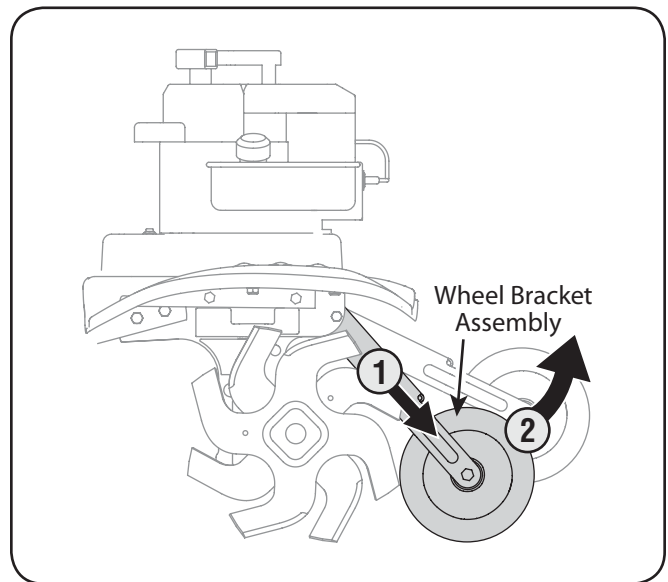

**Figure 3-4**
5. Insert the Z-fitting on the clutch cable into the hole on the tine clutch control. Hook the "Z" end into the opening from the inside to the outside as shown in Fig. 3-4.